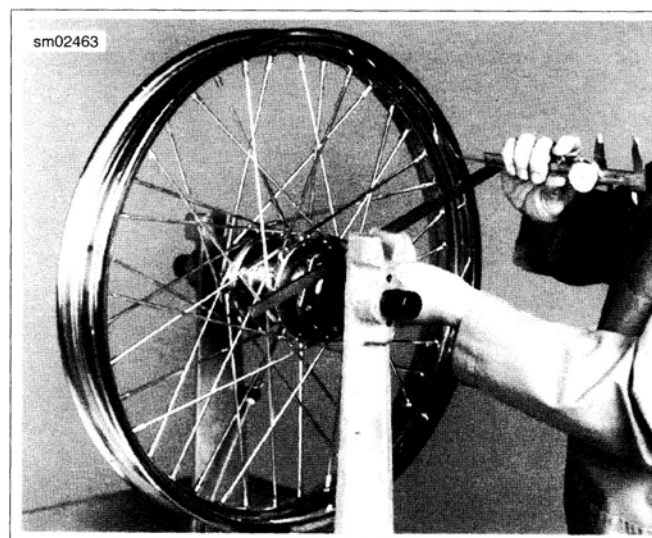

Figure 2-23. Front Wheel Hub Offset Dimension
- See Figure 2-23. Mount wheel in WHEEL TRUING STAND (Part No. HD-99500-80) using truing arbor. Tighten arbor nuts so hub will turn on its bearings.